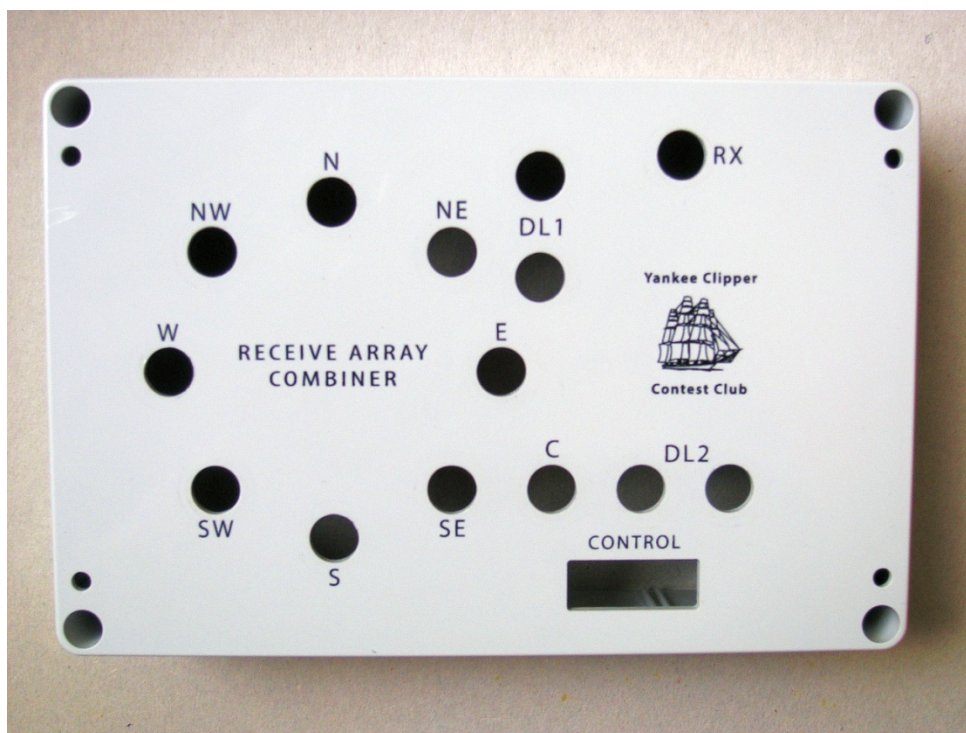

Figure 18. Bottom view of pre-drilled combiner enclosure
26. A predrilled combiner enclosure is provided in the kit for easy installation of the PCB. See Figure 18.